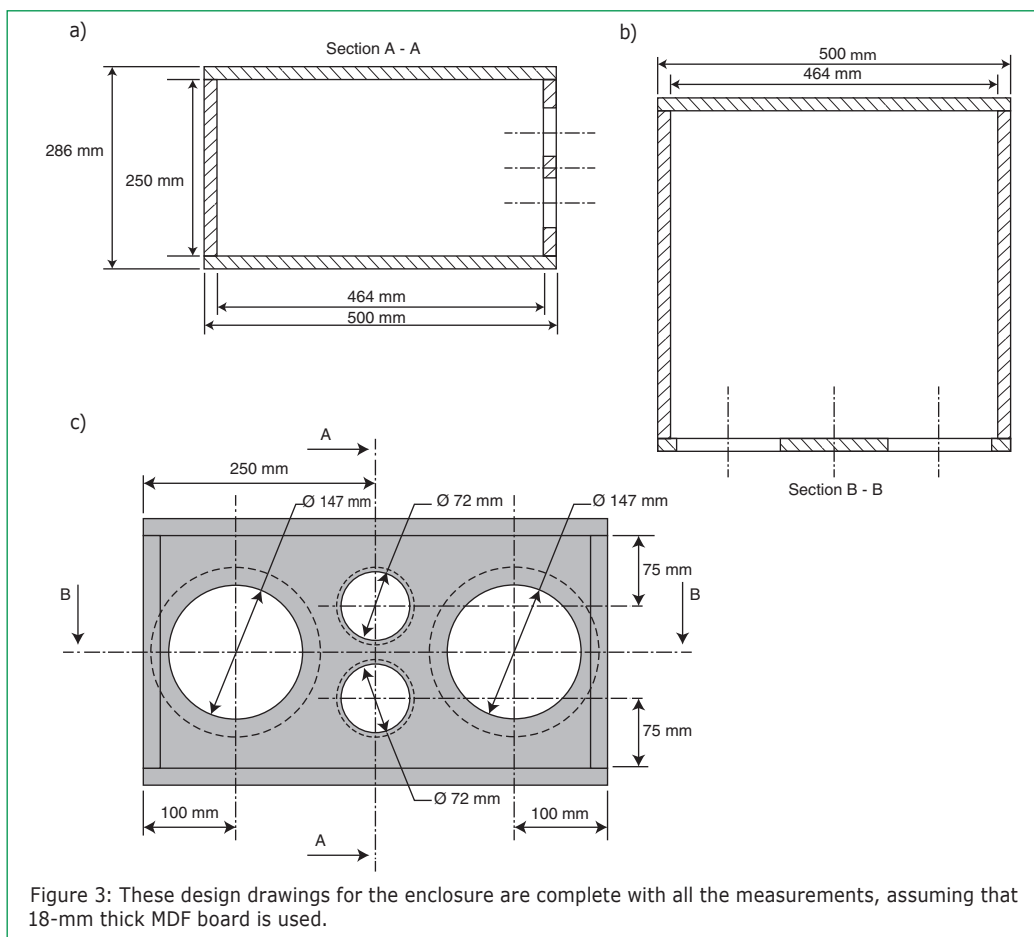

Figure 3: These design drawings for the enclosure are complete with all the measurements, assuming that 18-mm thick MDF board is used.
- Wood: 12-mm MDF (see Figure 3)
Figure 3 shows the subwoofer enclosure's complete design. This is a straightforward rectangular enclosure, which even a less experienced carpenter should be able to